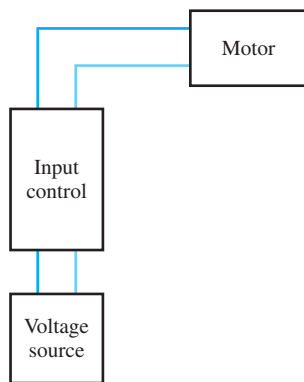
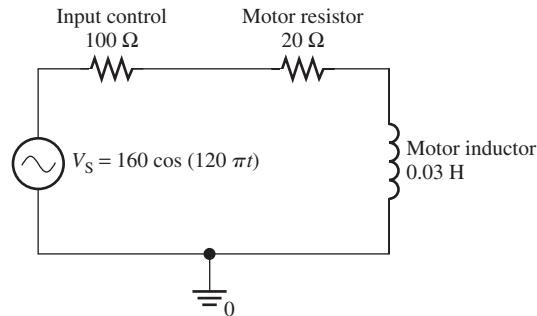

FIGURE 7.52 Block diagram of an elevator.
FIGURE 7.53 Circuit for the elevator circuit.
Figure 7.52 shows a simple block diagram of an elevator. The passenger selects a destination floor by choosing the floor on the input/control. The input/control processes the message and orders the motor to move the elevator to the particular floor.
- a. Based on the equivalent circuit given in the problem for the component, Figure 7.53 represents the equivalent circuit of Figure 7.52. Thus, the system is a high-pass filter with a break frequency of: